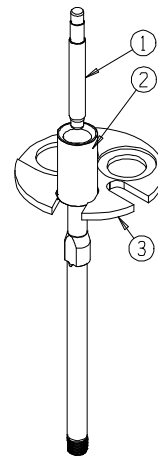

Figure 11-12 Valve Sleeve and Stem Disassembly. 1-Punch, 2-Valve Sleeve and Stem, 3-Arbor Press Plate Assembly.
- Refer to Figure 11-12. Place the Valve with Stem (2) with the threaded end facing down, in the Arbor Press (3). Use Punch (1), to press Valve Stem and Bushing from the Valve Sleeve.